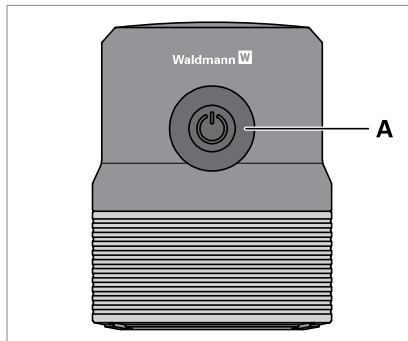

Fig. 5: Key.
- ▶ To switch the luminaire on and off, press the key A on the top side of the luminaire head, see Fig. 5.
- ▶ To switch to the dimming mode, press the key **A** and keep it depressed for 10s, see Fig. 5.